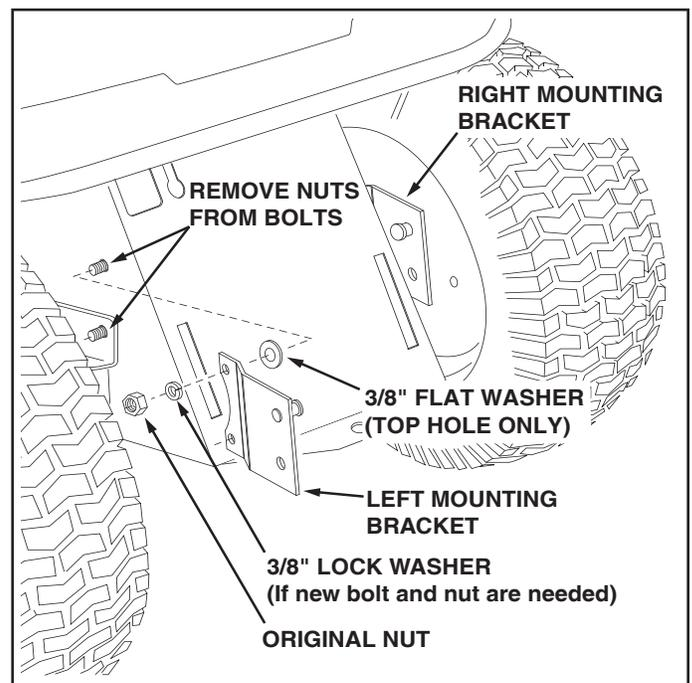

FIGURE 2B
### IF YOUR TRACTOR LOOKS LIKE FIGURE 2B
3. Remove the nuts from the two bolts in each side of the tractor, leaving the bolts in place. See figure 2B.
4. Attach the left (LH) and right (RH) Mounting Brackets to the bolts using the original nuts and two 3/8" flat washers. The brackets should angle outward with the weld pins at the top of the brackets facing inward. See figure 2B.